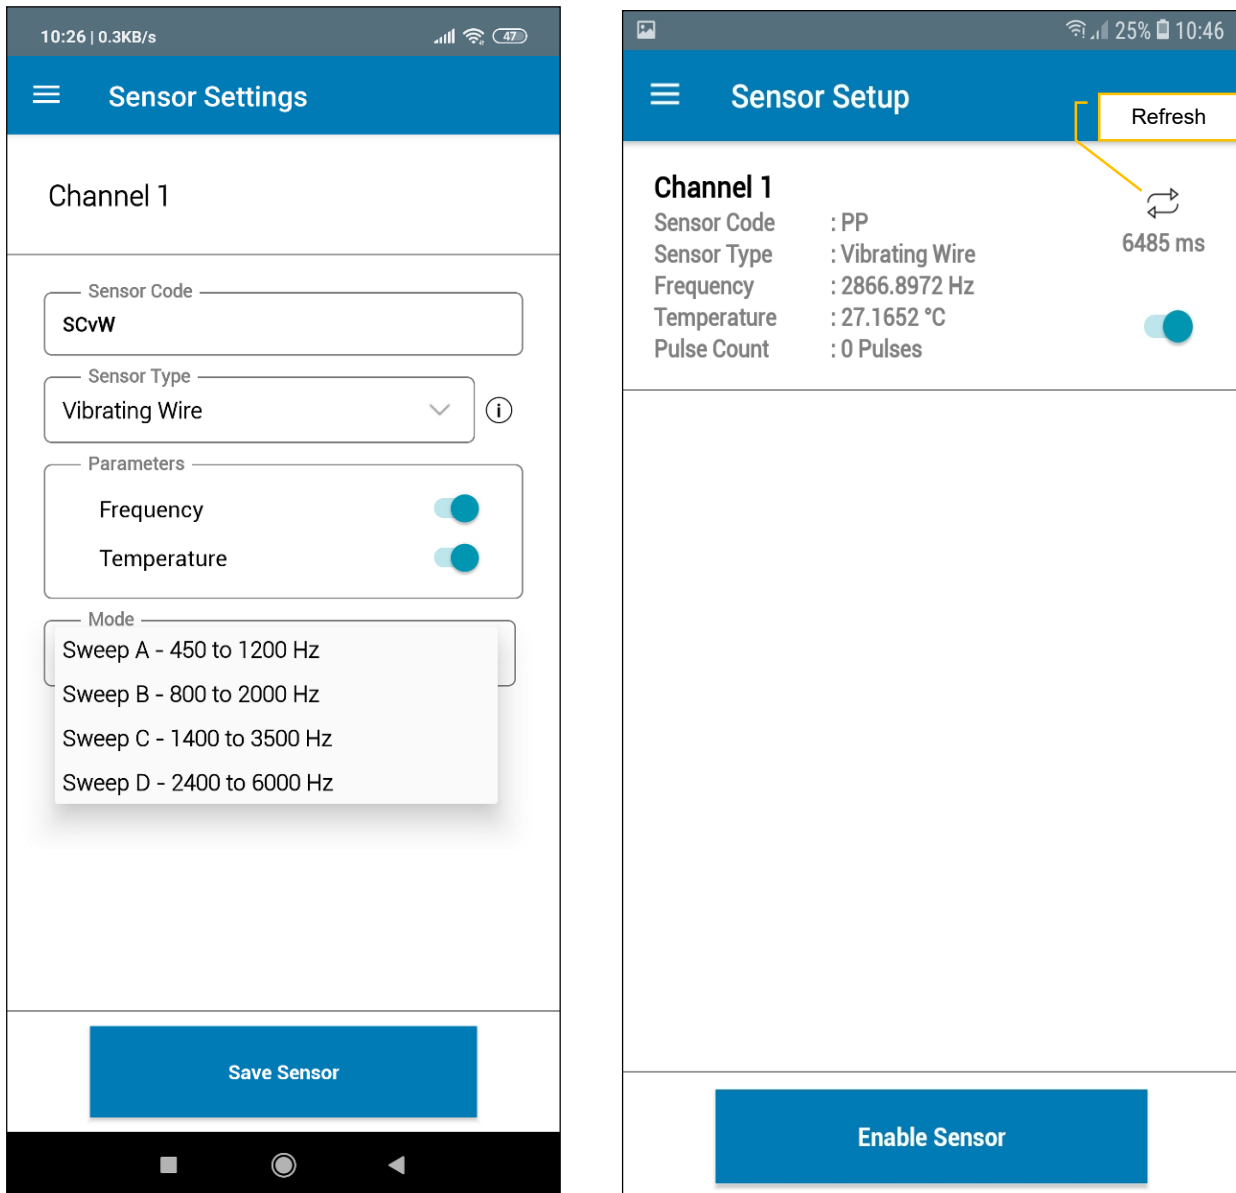

Figure 5-8
1. Sensor setting can be made as follows (shown in the left side screen in figure 5-8):
2. Click on 'Save Sensor'. The Node will now read the configured sensor, displaying the sensor readings, as shown in right side screenshot in figure 5-8.
3. To get another reading, click on the refresh button (shown in the right side screenshot in figure 5-8).